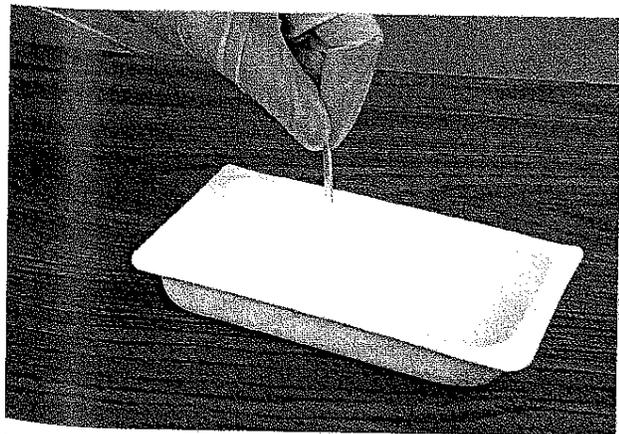
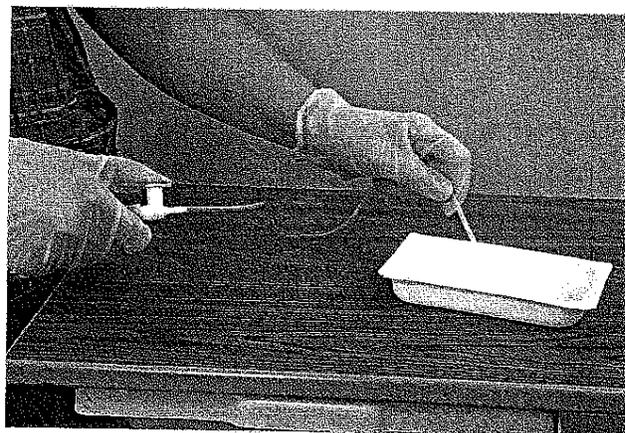

FIGURE 5. Moistening catheter in saline solution.
FIGURE 6. Occluding Y-port to check for proper suction.
13. Moisten the catheter by dipping it into the container of sterile saline, unless it is a silicone catheter (Figure 5). Occlude Y-tube to check suction (Figure 6).